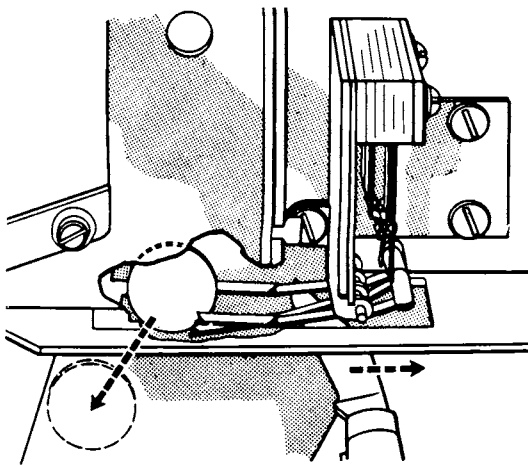

Figure 19. Coin Travel
DO NOT ATTEMPT ANY BENDING ADJUSTMENT IF THE SWITCH MEETS CONDITIONS OUTLINED ON FIGURES 19, 20 and 21.
2. Move the knife blade slowly to the right to release the coin. The contacts must come together and the back blade should move approximately 1/64" just before the coin drops through of its own weight. (See Figure 19).
5. Bend short blade at this point so it moves approximately $1/64$ " when coin is slowly released as in Figures 19 and 20.